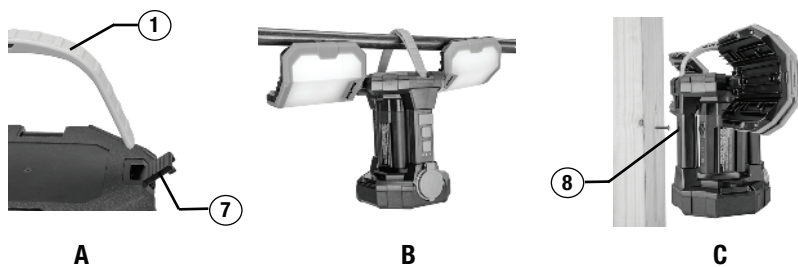

FIG 4
FLEXIBLE HANDLE (FIG 4)
This lantern features a flexible lift handle (1). One side of the handle can be detached by unlocking the flip lock (7). See FIG 4-A. This design allows you to hang the lantern in many places where a regular handle would not work, such as a pipe as shown in FIG 4-B.
KEYHOLE SLOT (FIG 4)
The lantern features a keyhole slot (8) on the back column for easy hanging on a wall. Refer to FIG 4-C for guidance on utilizing this feature.